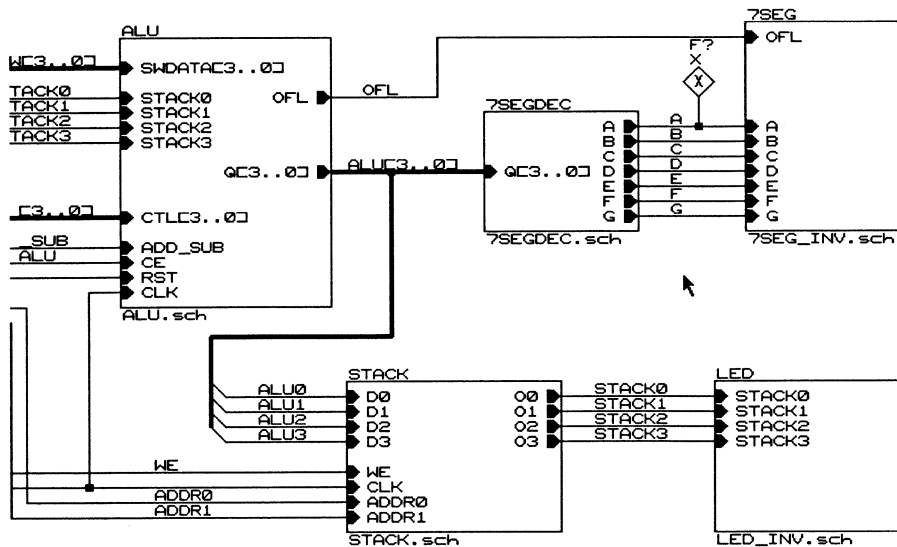

Figure 11-19 Net Flag on Net “A”
3. Move the cursor so that the new symbol is positioned above the net labeled “A.” between 7SEGDEC and 7SEG_INV or 7SEG_TRU, as in Figure 11-19.
The wire and the junction symbol *must* be used or the net flag is not considered connected. See Figure 11-19.